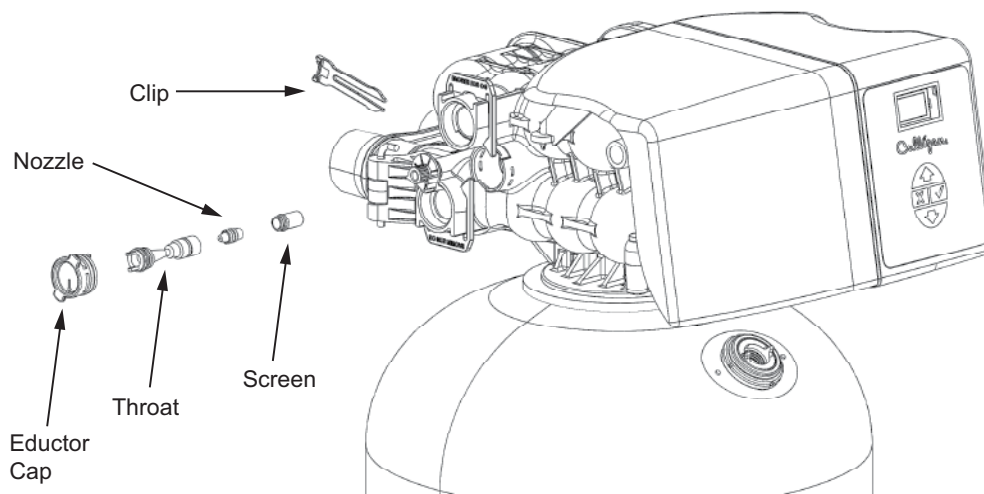

Figure 61. Removing the eductor nozzle and throat.
2. Remove the plastic clip from the upper service port opening (this port is located on the side of the valve body, just above the eductor plug). See Figure 61.